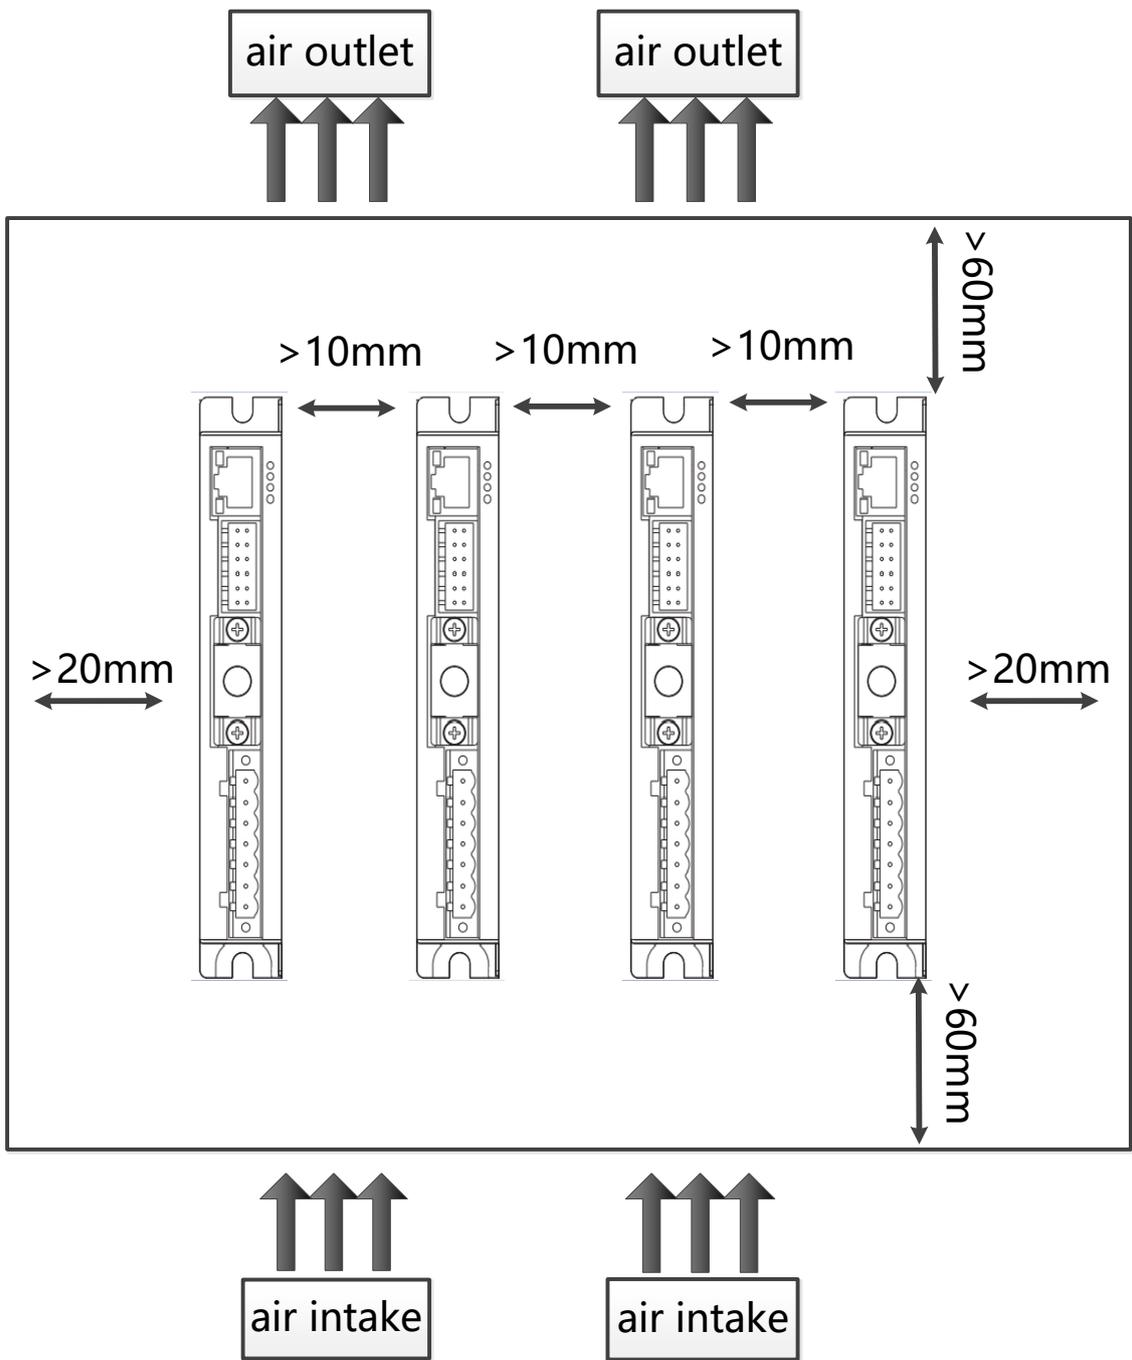

Figure 2-7 FD1x4S drive installation interval
- Please follow menu's all required operation. And refer to figure 2-7 to correctly install servo system.